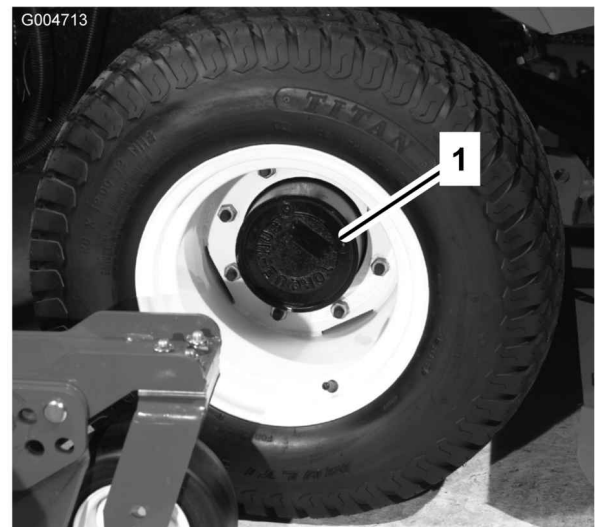

Figure 57
1. With the machine on a level surface, position the wheel so that the check/drain plug (Figure 57) is at the lowest position.